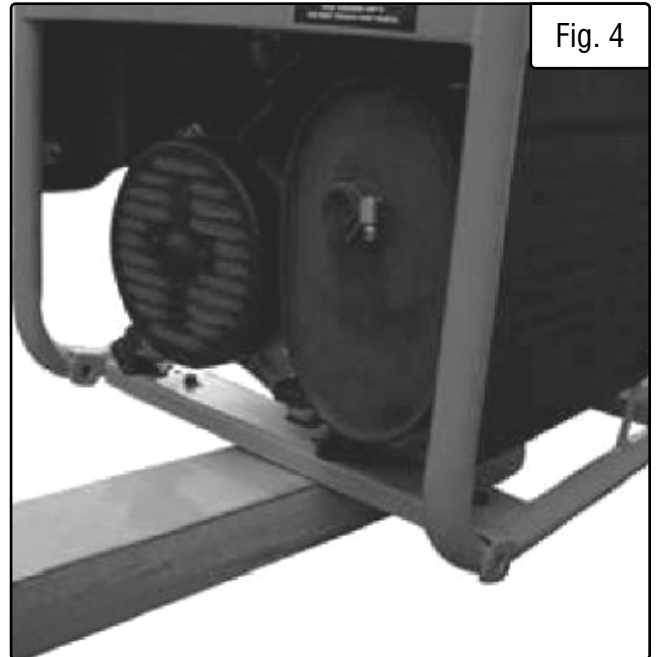

Fig. 4
1. Find a wood block or similar item that is 3 inches thick or greater and rest the exhaust end of the generator on the block (Fig. 4).